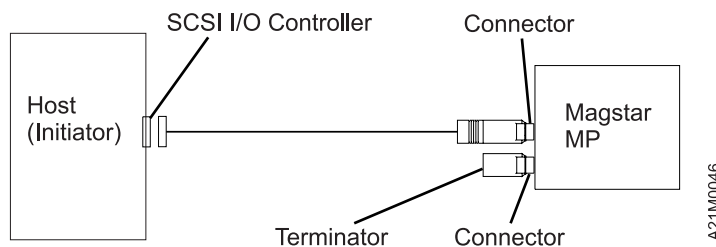
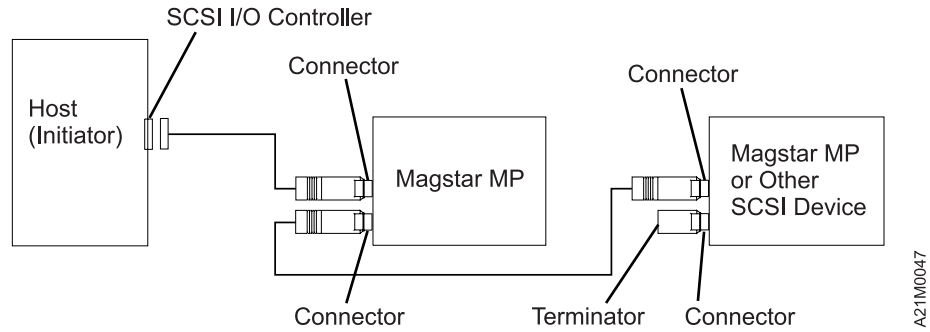
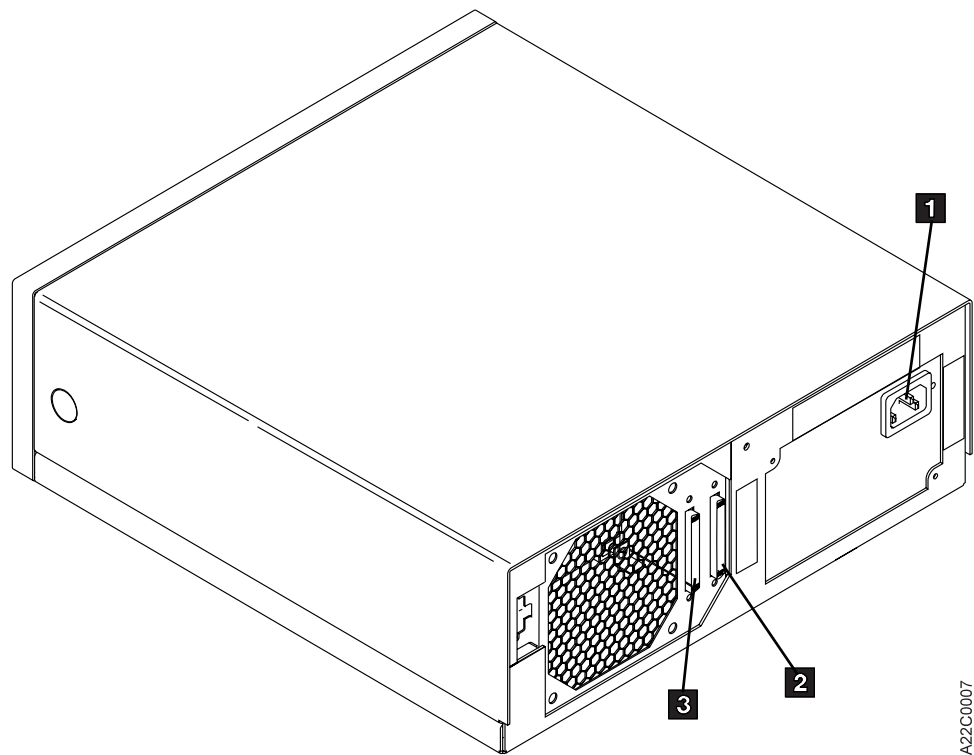

Figure 9. Example of Attaching One SCSI Device to the Host (Initiator)
Figure 10. Example of Attaching Multiple SCSI Devices to the Host
Figure 11. Rear View of Model C00
2. If the Magstar MP is the first or only SCSI device connected in line to the initiator, connect the SCSI interface cable coming from the initiator to the leftmost SCSI connector on the back of Model C00 (see Figure 9 and **3** in Figure 11).
3. If the Magstar MP is not the first device on the SCSI bus, connect the SCSI interface cable coming from the next closest device to the leftmost SCSI connector on the back of Model C00 (see Figure 10 and **3** in Figure 11).
4. If this is the last device on this SCSI bus, locate the SCSI interface terminator (P/N 61G8342) and attach it to the rightmost SCSI connector on the back of Model C00 (see Figure 9, Figure 10, and **2** in Figure 11).
5. If Model C00 is not the last device on this SCSI bus, locate the SCSI interface cable to the next device and connect it to the unused, rightmost SCSI interface connector on the back of Model C00 (see Figure 10 and **2** in Figure 11).
Figure 9 shows an example of a single Magstar MP attached to the host (initiator) and Figure 10 shows an example of attaching multiple SCSI devices to the host.
Figure 11 shows the SCSI connectors for Model C00.